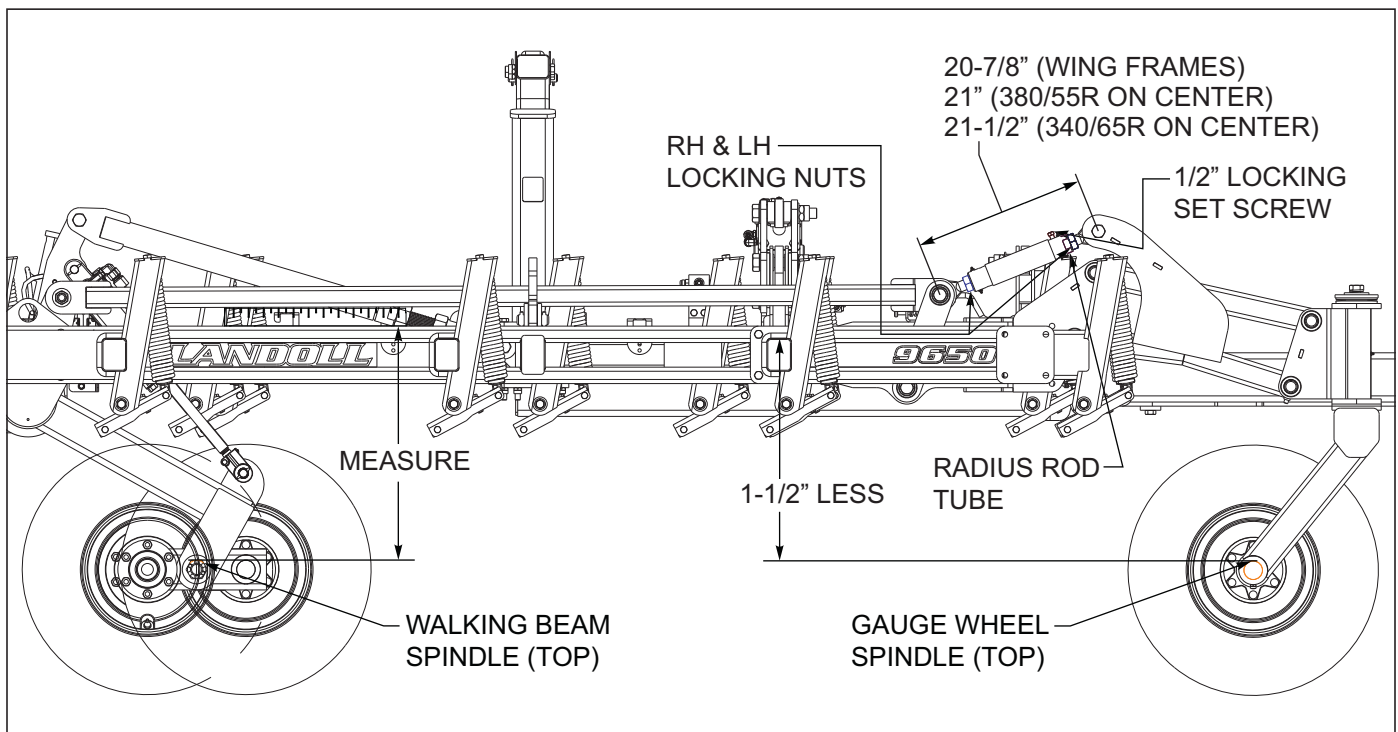

Figure 4-7: Gauge Wheel Adjustment
1. The front gauge wheels of the floating hitch cultivator raise and lower with center and wing lift wheels keeping the frames level during operation **See Figure 4-7**. The gauge wheels will caster while making turns with the cultivator.
*Initially the front radius rods are set to 21" for 380/55R tires and 21-1/2" for 340/65R tires on center before final adjustment **See Figure 4-7**. Set wing frame radius rods to 20-7/8".*